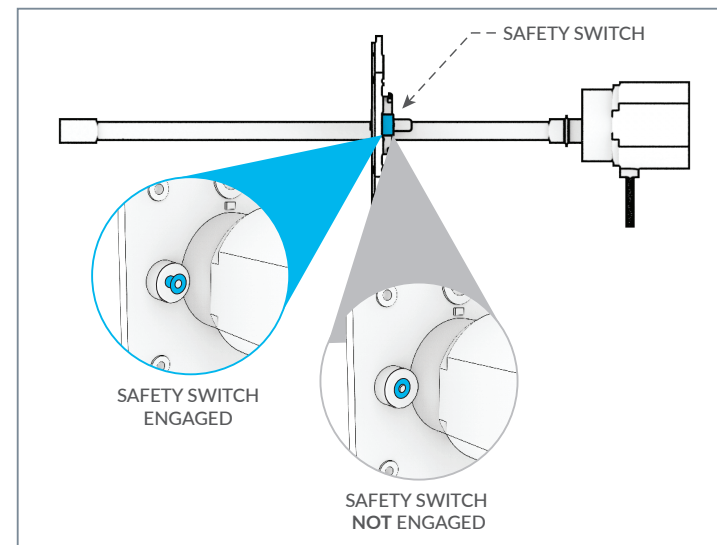

FIGURE 20
The mounting base must be tightly attached in order to activate the built-in safety switch. (Figure 20)
There is a proving switch located on the base that needs to be seated properly onto the duct. **Make sure that when base is mounted that the plated washer on the switch is raised approximately $\frac{3}{16}$ " and the switch is fully engaged.** (See Figure 20)
1. Pull back metal washer on left side of mounting base. If lamp lights up, the base needs tightening to ensure that the safety switch is fully engaged. (Reference **Figure 20** on **page 19**.)